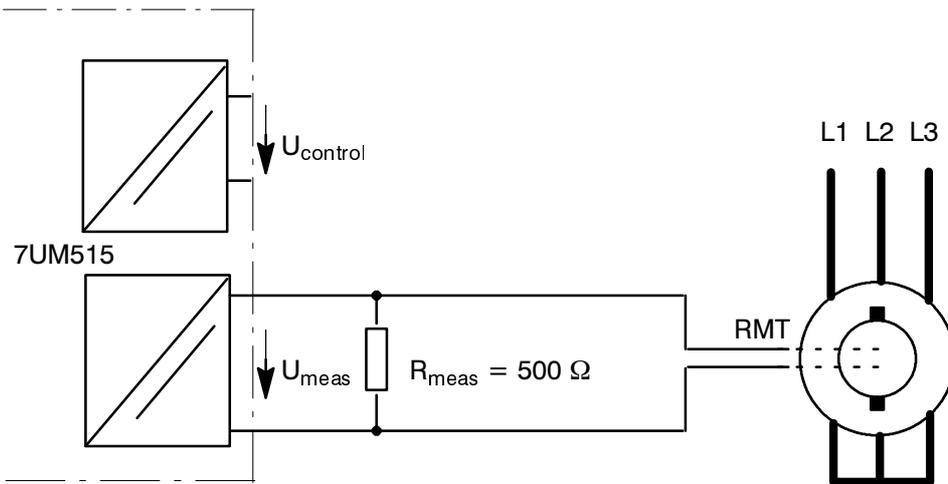
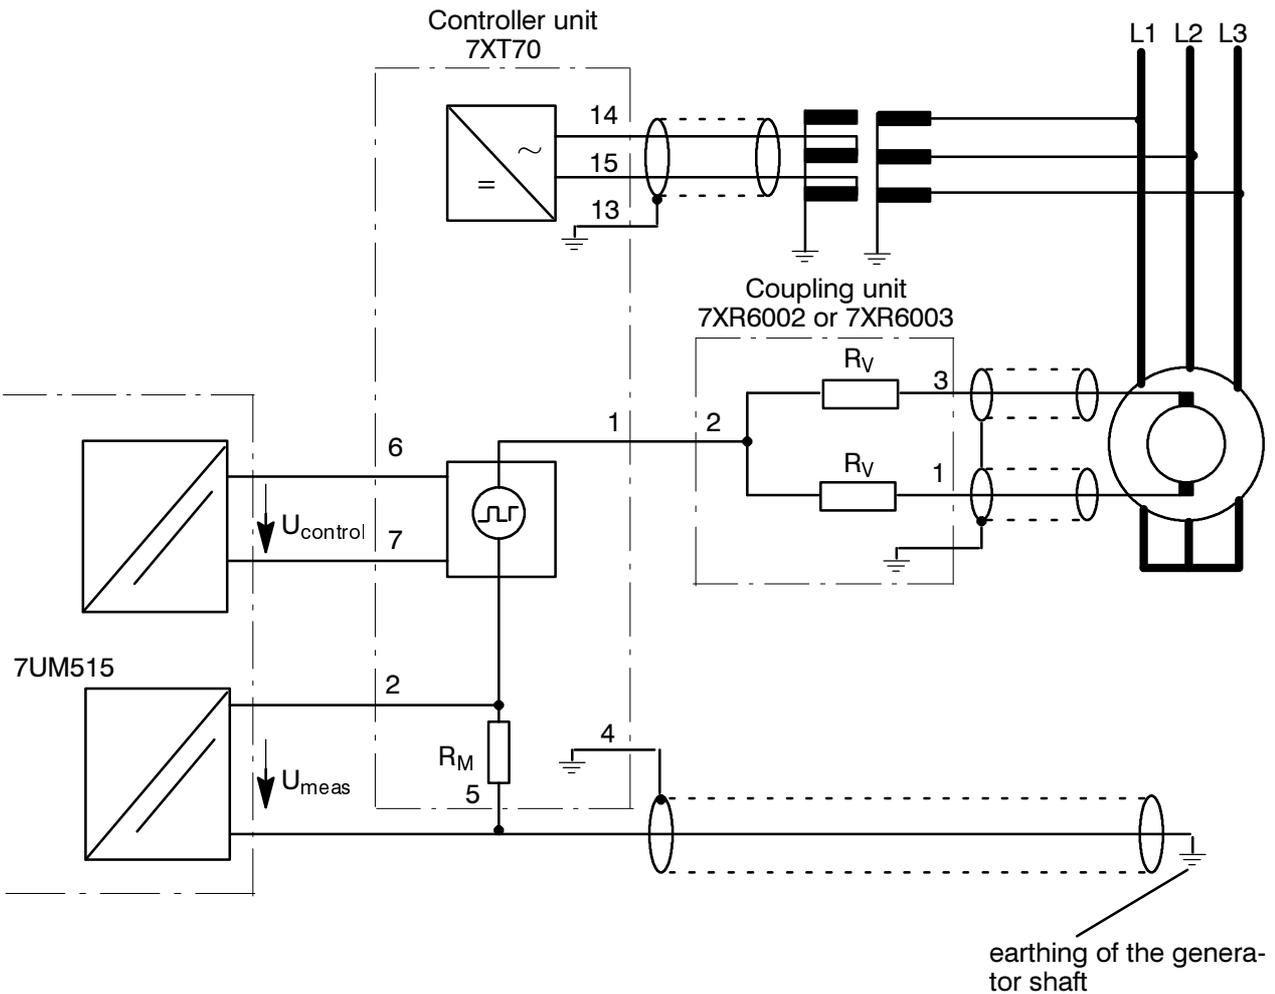
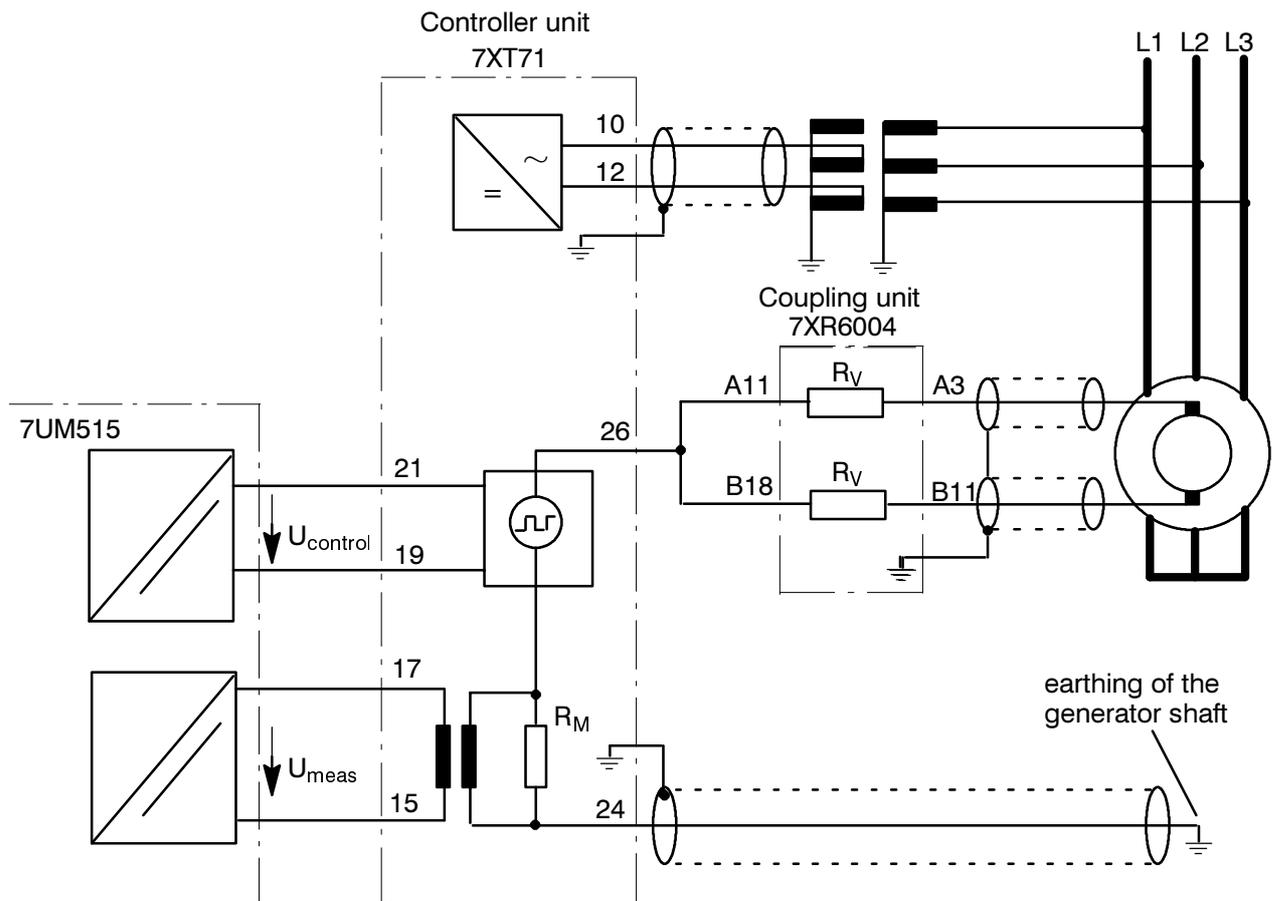

Figure 5.7 Connection of an external rotor earth fault protection (RMT)
Figure 5.8 Connections for rotor earth fault protection (with controller unit 7XT700-0B)
Figure 5.9 Connections for rotor earth fault protection (with controller unit 7XT7100-0*A00)
If rotating measured value transmission (RMT) is used, i.e. a measured value acquisition device is installed on the rotor shaft, the output signal of this is converted to a proportional voltage by means of a shunt resistor. This voltage is fed to the assigned input of 7UM515 (see Figure 5.7).
If the integrated rotor earth fault protection is used, interconnections between 7UM515 and the accessory devices must be arranged. Figure B.1 (Appendix B) shows the interconnections when 7XT70 is used. Figure 5.8 shows a schematic example with controller unit 7XT70, Figure 5.9 with 7XT71.
The connections between the controller unit and the protection relay shall be laid closely together and twisted in order to prevent interference in this leads. *Note* that these measuring circuits will be galvanically connected to the excitation circuit of the machine and therefore stressed by higher potentials against earth! The connections between the rotor circuit to the coupling unit and to the protection relay should be screened as well as the a.c. auxiliary voltage leads (see Figures 5.8 or 5.9). The controller unit provides terminals for the connection of the screens.
- Are the connections between controller unit, coupling unit and protection relay for rotor earth fault protection correct (interconnection example Figure 5.7, Figure 5.8 or Figure 5.9)?